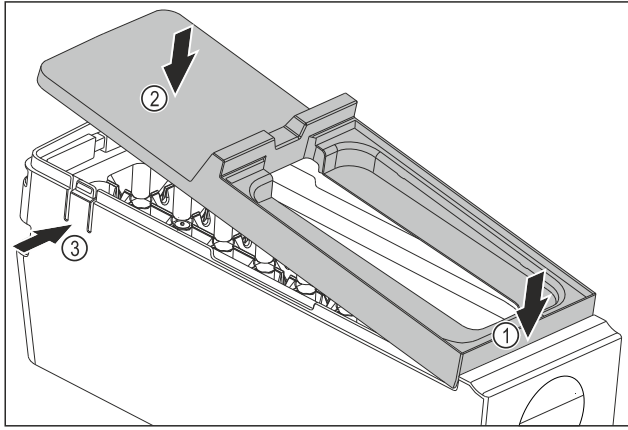

Fig. 114
- ▶ Installing the cover of the EasyTwist-Ice body: Fit the cover at the front. Fig. 114 (1)
- ▶ Lower the cover at the rear. Fig. 114 (2)
- ▷ The cover snaps audibly into place in both tabs Fig. 114 (3).